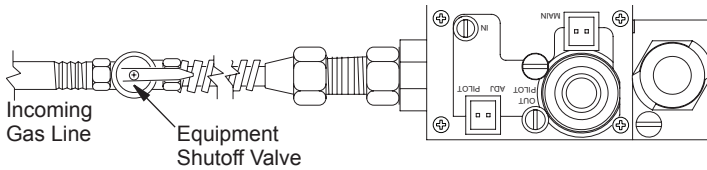

Figure 25 - Turning Equipment Shutoff Valve to the OFF Position
- Turn equipment shutoff valve clockwise ↻ to the OFF position (see Figure 25). Do not force.
- Wait five (5) minutes to clear out any gas. Then smell for gas, including near the floor. If you smell gas, STOP! Follow "B" in the safety information. If you don't smell gas, go to the next step.